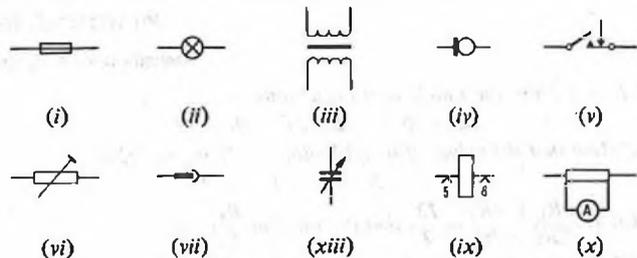

Fig. 1
- Q 7** (a) Name the circuit symbols shown in Fig. 1.